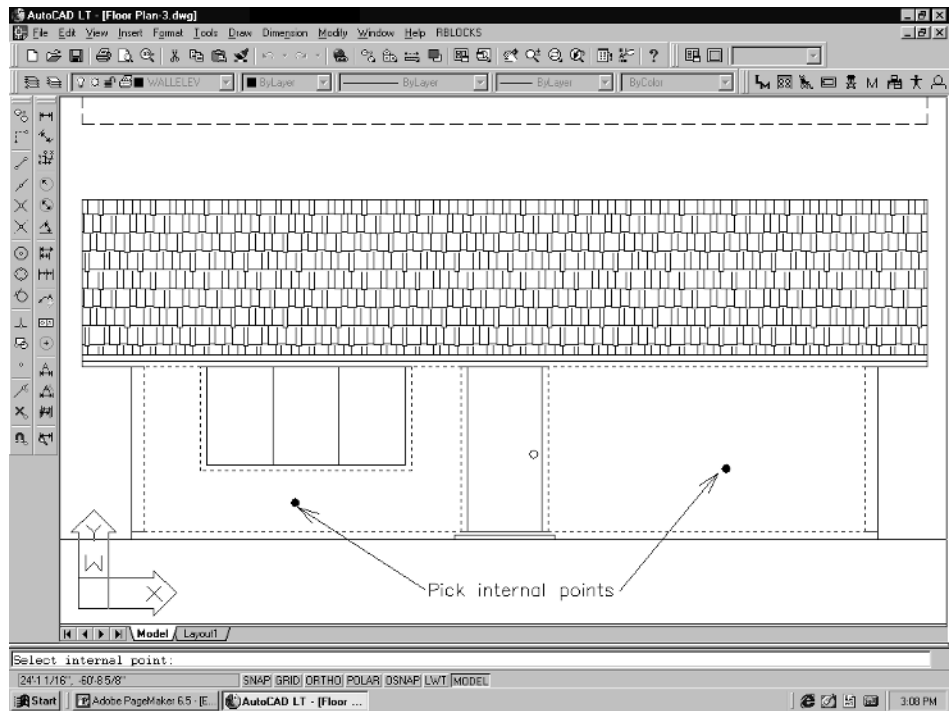

Figure 4-53
4. Next, hatch the walls. When the Boundary Hatch dialog comes up, pick the **Swatch** box. Select the pattern named **LINE**. Change the scale to **60.0**, then select the **Pick Points** button. Pick inside of each wall and then **Enter**. You will see the “boundary” of the area that will be hatched “light up,” as shown in Figure 4-53. This elevation actually requires two picks because the wall is divided by the door.